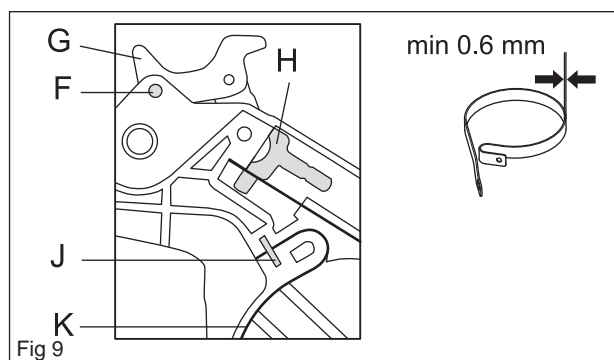

Fig 9
- Measure the thickness of the chain brake band. It mustn't be less than 0.6 mm in any place (see figure 9).
In the jointed end of G is a fixed pin, which must be placed in the notch in the fork H (see figure 9).